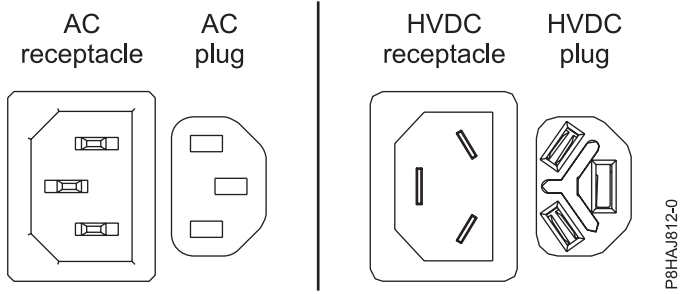
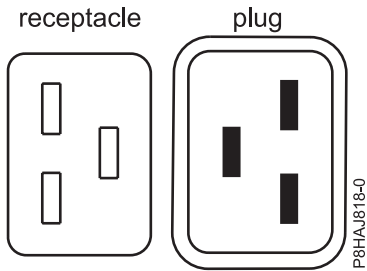
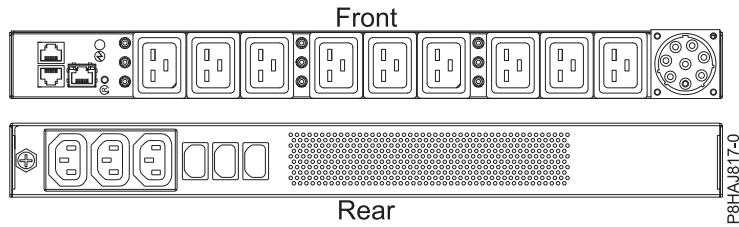

Figure 13. AC and HVDC connectors
Figure 14. Connectors for the 8408-44E system
Figure 15. PDU for the 8408-44E system
Figure 13 on page 39 shows the supported alternate current (AC) and high voltage direct current (HVDC) connectors. Figure 14 on page 39 and Figure 15 on page 39 show the supported connectors and power distribution unit (PDU) for 8408-44E.